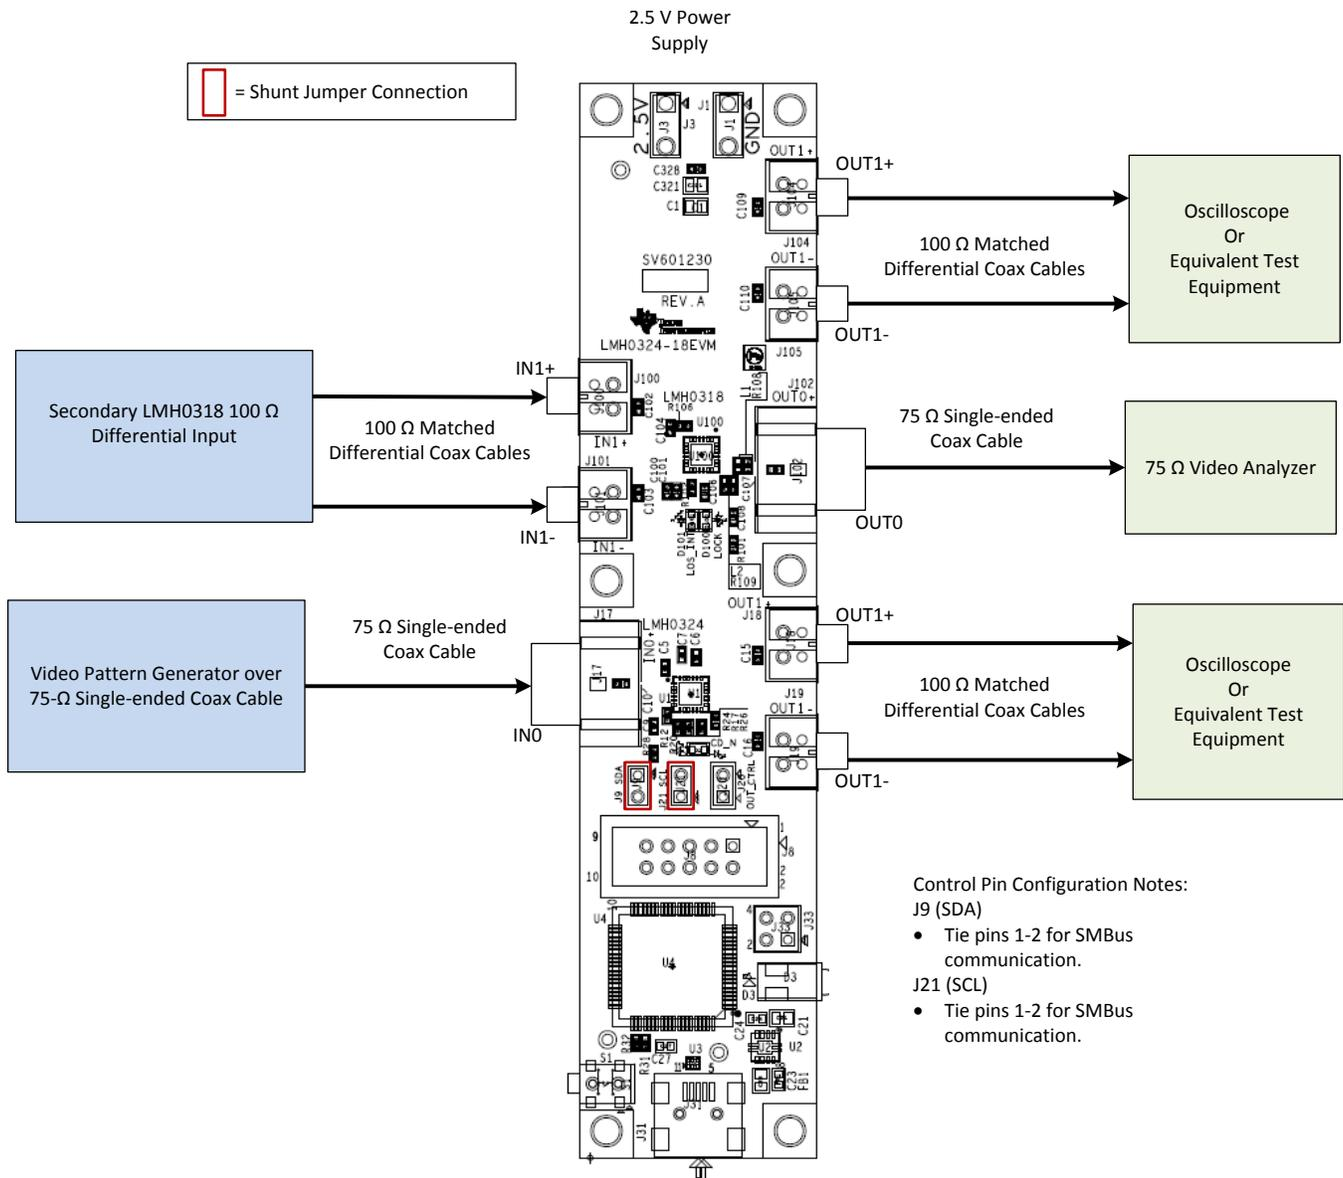
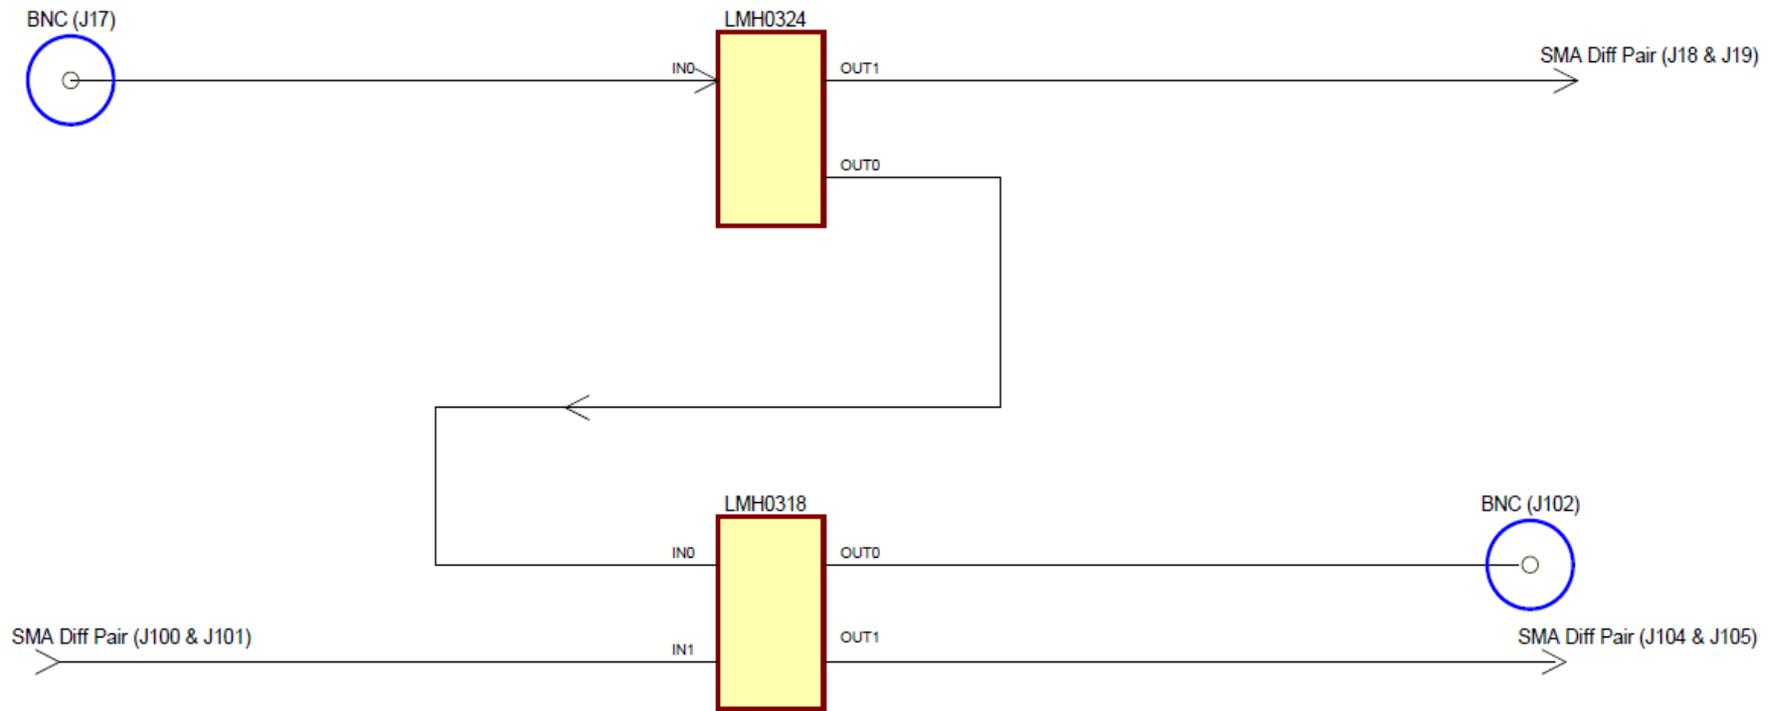

Figure 3. LMH0324-18EVM Configured for Single Supply, SMBus Operation
Figure 8. LMH0324-18EVM Block Diagram
By factory default, the LMH0324-18EVM is configured to accept a valid SDI signal on IN0 and output the retimed data on OUT0 without programming the LMH0324-18EVM beforehand. The general procedure for setting up and testing with the LMH0324-18EVM is as follows. For hardware setup and connections in the steps below, reference the illustration in Figure 3
The general procedure for setting up and evaluating with the LMH0324-18EVM is as follows. For hardware setup and connections in the steps below, reference the illustration in Figure 3 to implement the appropriate setup.
2. Set the control jumper shunts for appropriate operation. Reference Figure 3.
2. Connect the LMH0324-18EVM to the system under test, reference Figure 3. The LMH0324-18EVM's default mode is a Distribution Amplifier. The input signal IN0, J17, is being equalized and retimed on LMH0324 and being sent to the input, IN0, of the LMH0318. Reference the block diagram in Figure 8.